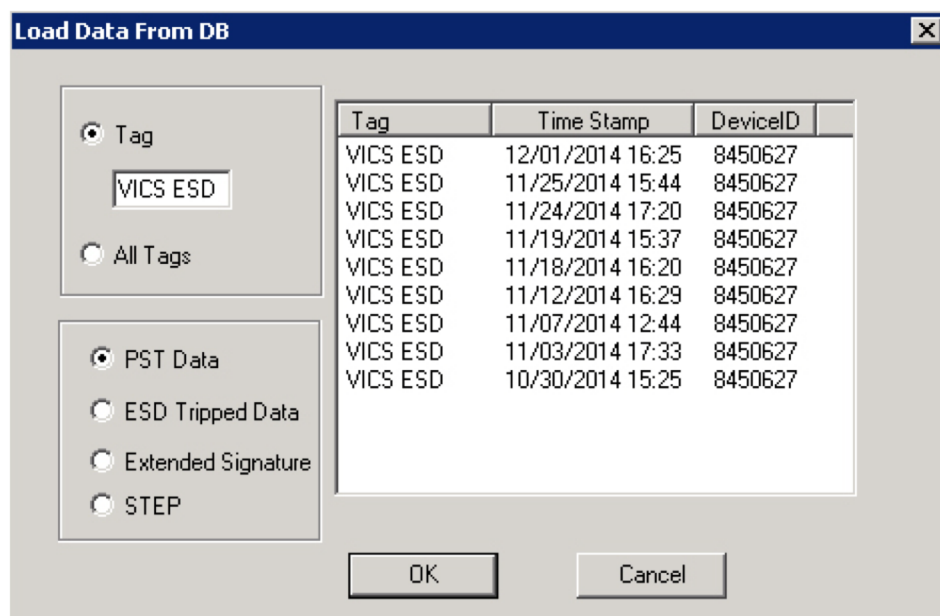

Figure 285 - Device and Data Type Displayed
4. Select the data type you to load (*Figure 285*):